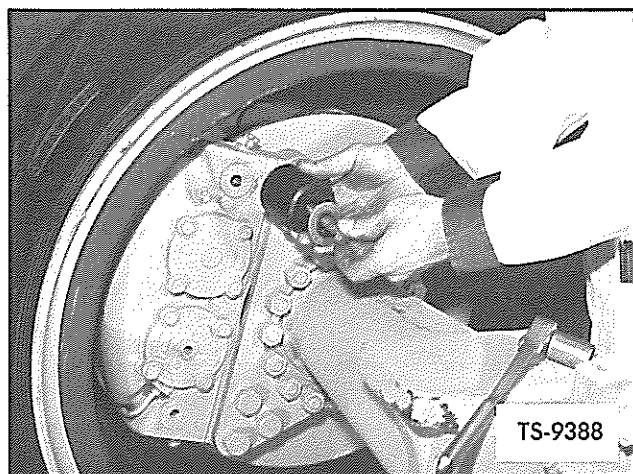

Fig. 4. Pin Removal Device
2. Remove the unlocked pin from the side of brake head closest to the differential. A device consisting of a 2" diameter pipe coupling, two large flat washers and a bolt the same diameter and thread size as the hole drilled and tapped in the retaining pin, as shown in Figure 4, may be helpful in extracting the unlocked pin.